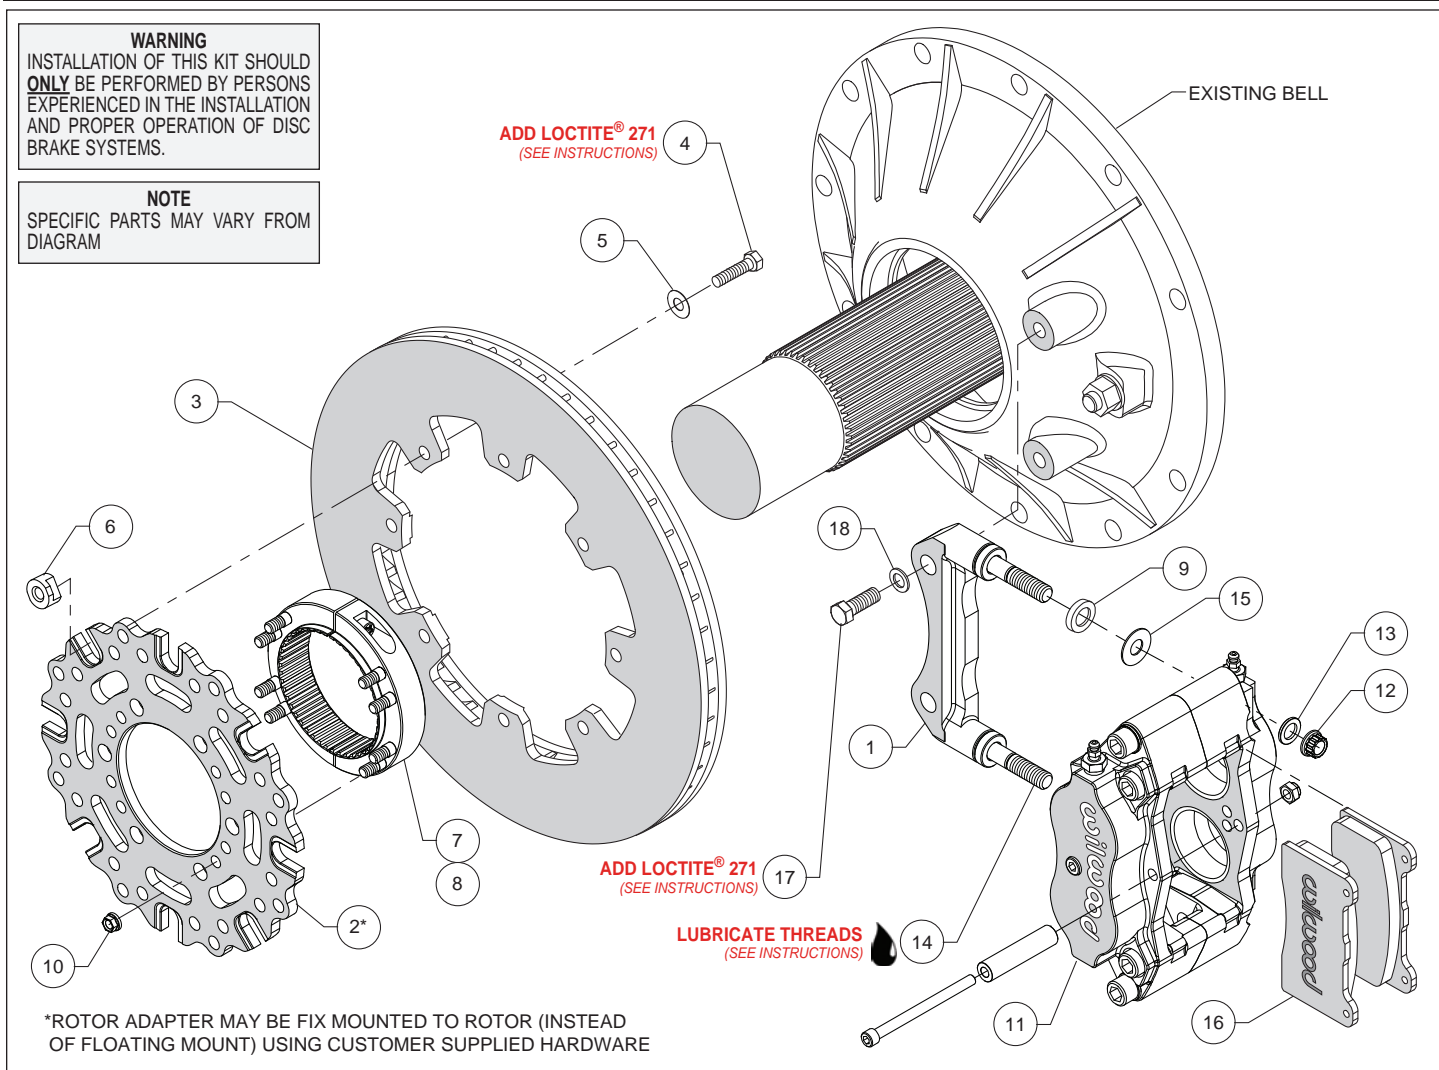

Figure 1. Typical Installation Configuration
• Orient the caliper mount bracket (1) as shown in Figure 1 and install using bolts (17) and washers (18). Temporarily tighten the mounting bolts. **NOTE:** The bracket must fit squarely against the mount bosses on the bell. Inspect for interference from casting irregularities, machining ridges, burrs, etc. Remove the bracket mounting bolts one at a time, apply red *Loctite*® 271 to the threads, and torque to 60 ft-lb.
• Orient the rotor adapter (2) and the rotor (3), as shown in Figure 1, and attach using bolts (4), washers (5) and t-nuts (6), Figure 1. Apply red *Loctite*® 271 to the bolt threads before installing. Finger tighten. After all t-nuts have been installed, torque bolts in an alternating sequence to 220 in-lbs. Please refer to Wilwood's data sheet DS-669 (available at www.wilwood.com/Pdf/DataSheets/ds669.pdf) for complete t-nut bolt kit installation instructions. **NOTE:** Rotor adapter may be fix mounted to rotor (instead of floating mount) using customer supplied hardware.
- Orient the axle clamp assembly (7 and 8, pre-assembled) as shown in Figure 1 and install onto the rotor adapter (2) using nuts (10). Tighten nuts part way while still allowing clamp-to-rotor movement. The nuts will be torqued later, after aligning the rotor. **NOTE:** *The axle clamp should be positioned inside of the rotor as shown in Figure 1, not offset, or outside of the rotor adapter.*
- Lubricate the caliper mounting studs (14) with lightweight oil. Initially place one .030" thick shim (15) and one spacer (9) on each stud as shown in Figure 1. Mount the caliper (11) onto the bracket (1) using lock nuts (12) and washers (13), Figure 1. Temporarily tighten the lock nuts (12) and view the rotor through the top opening of the caliper. The rotor should be centered in the caliper. If not, slide the rotor/adaptor assembly on the axle until the rotor is centered in the caliper. Tighten the clamp nuts first, locking the clamp to the axle. Torque nuts (10) to 140 **in-lbs**.
- Remove the caliper center bridge pad retainer bolt, nut, and tube from the caliper. Insert the brake pads (16) into the caliper, with the friction material facing the rotor. Check that the top of the brake pad is flush with the outside diameter of the rotor. If not, adjust by adding or subtracting shims (15) between the caliper and the bracket. After the caliper pad height is set, torque the caliper lock nuts (12) to 30 ft-lb. Secure the brake pads in place with the center bridge pad retainer tube, bolt, and locknut. The locknut should be snug without play in the bolt or tube. Be cautious not to over tighten.